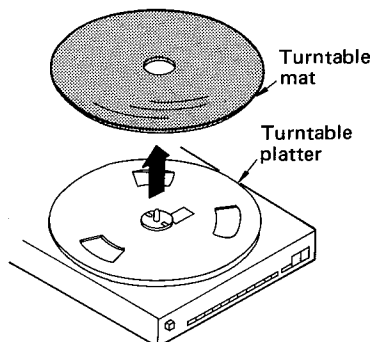

Fig. 1
2. Remove the turntable mat and lift the turntable platter. (Fig. 1)